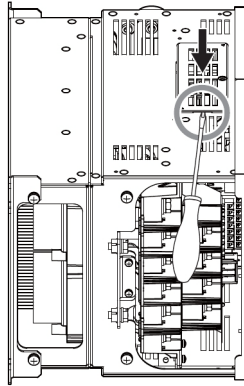

Figure 13: Remove the Connector Cover
3. Insert the blade of a straight-edge screwdriver into the opening shown in Figure 13. Pull the connector cover in the direction indicated by the arrow and remove it from the drive.